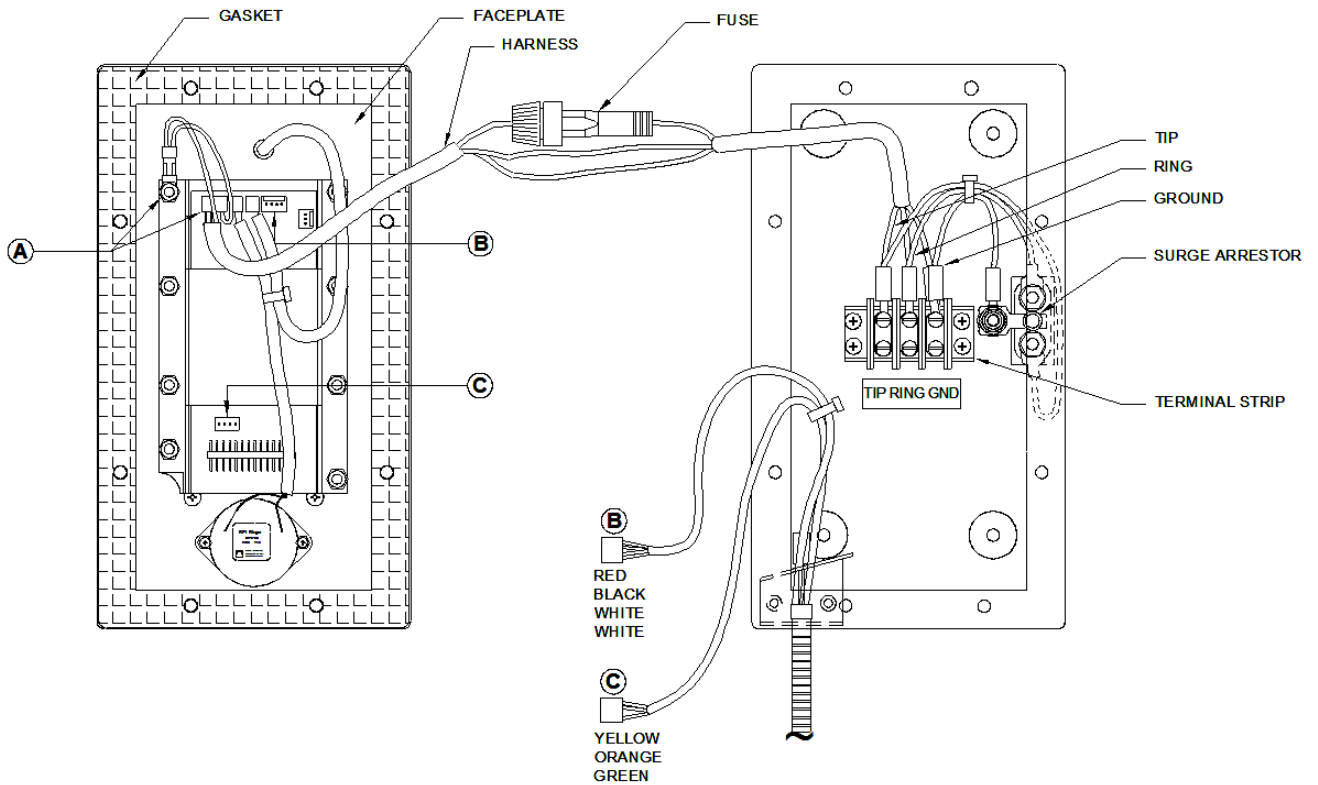

Figure 4 - Installation SCR-41
**See:** Figure 3 - Installation SCR-11 & Figure 4 - Installation SCR-41
SCR-11 & Figure 4 -